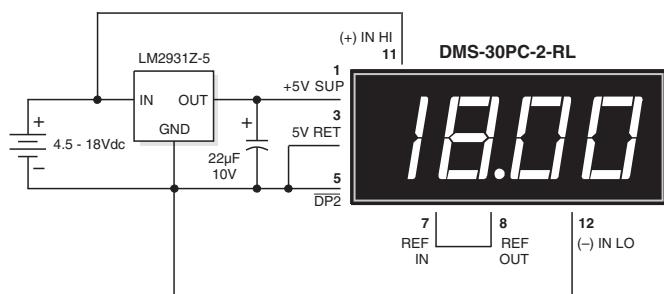

Figure 8. 4.5-18V Power Supply Monitor
6. **Power Supply Monitoring:** One of the most common digital panel meter applications involves monitoring the output voltage of the system power supply — often this supply also powers the meter itself. The low-power, red LED DMS-30PC-2-RL can be configured to allow power supply monitoring over the range of 4.5-18Vdc. The circuit in Figure 8 uses a low-drop-out, three-terminal regulator (LM-2931Z-5, available from National Semiconductor) to provide regulated 5V power to the meter. The LM-2931 was chosen because it has the following on-chip protection features: reverse polarity, short circuit